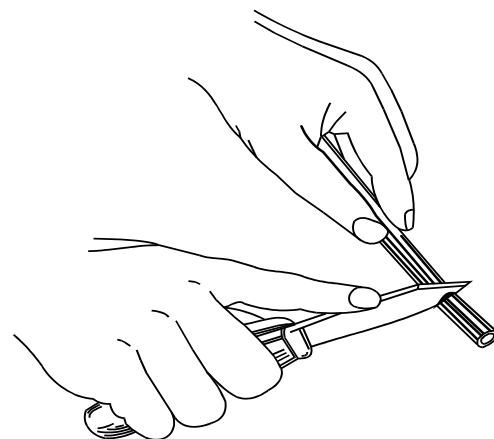

Figure 3-4
18. The first cut is to remove the desired length of the outer jacket. After placing the cable on a solid surface, position the knife blade at the desired strip point and press gently, using sufficient pressure to score the jacket without damaging the inner shielding. Figure 3-4 illustrates this process.